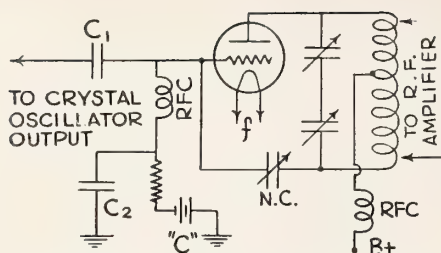

FIGURE 6. Buffer amplifier stage.
Figure 6 diagrams a buffer amplifier stage which serves several useful purposes. The output from a crystal oscillator is not very strong because strong oscillations would cause violent mechanical vibration of the fragile crystal. The buffer amplifier boosts the carrier strength without damaging the crystal.
The NC mark in Fig. 6 designates a neutralizing condenser. When a triode is used as an RF amplifier, the plate-to-grid capacitance of the tube will provide a path for the RF voltage in the plate circuit to feed back to the grid. This feedback voltage is in phase with the voltage on the grid of the tube and will reinforce it. The circuit will then act like a tuned-plate, tuned-grid type of oscillator. These oscillations are undesirable because it is the function of the circuit only to amplify.
3. What is the function of the neutralizing condenser in Figure 6?